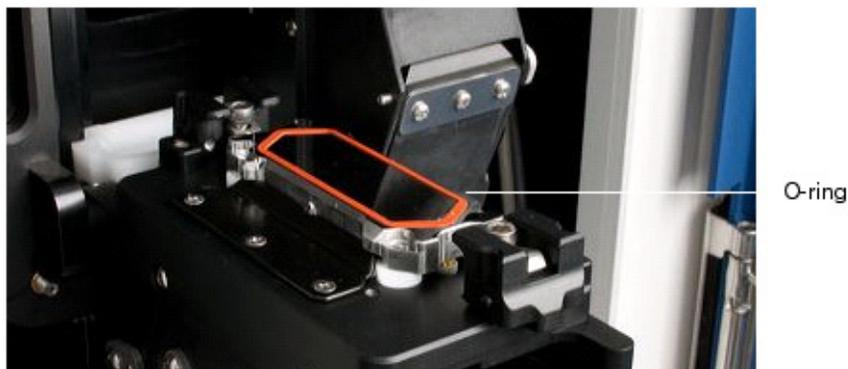

Figure 21 O-ring installed on flowcell.
6. Inspect the O-ring and reseal it if necessary (see Figure 21 on page 31; for details, see “Install the SOLiD™ Flowcell O-Ring” on page 102). Check the O-ring for cuts and abrasions. If any abnormalities are observed, replace it. Inspect the O-ring grooves for debris or contamination and clean with water as needed.